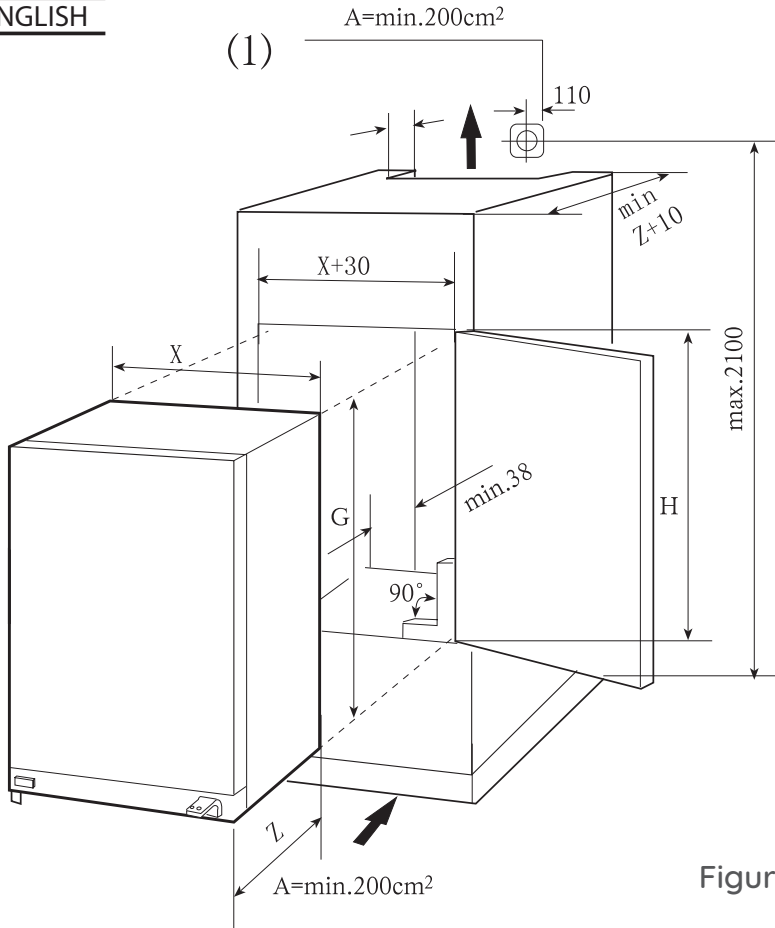

Figure 1
- Ventilation (Figure 1)
4. Check that the position of the socket (1) is correct. The AC voltage at the point where the appliance will be used must comply with the data on the rating label, located on the inside left wall of the appliance near the vegetable box. The outlet must be properly grounded.